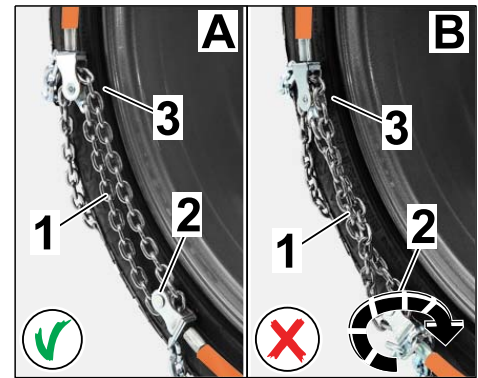

Figure 8
2.2.2 Check that the tensioning chain is running parallel at the tensioning point and deflection roller (end of spring steel clip on inside of wheel) (⇒ *Figure 8-A-*) and is **NOT** twisted (⇒ *Figure 8-B-*).
Turn deflection roller for spring steel clip if necessary (⇒ *Figure 8-arrow-*).